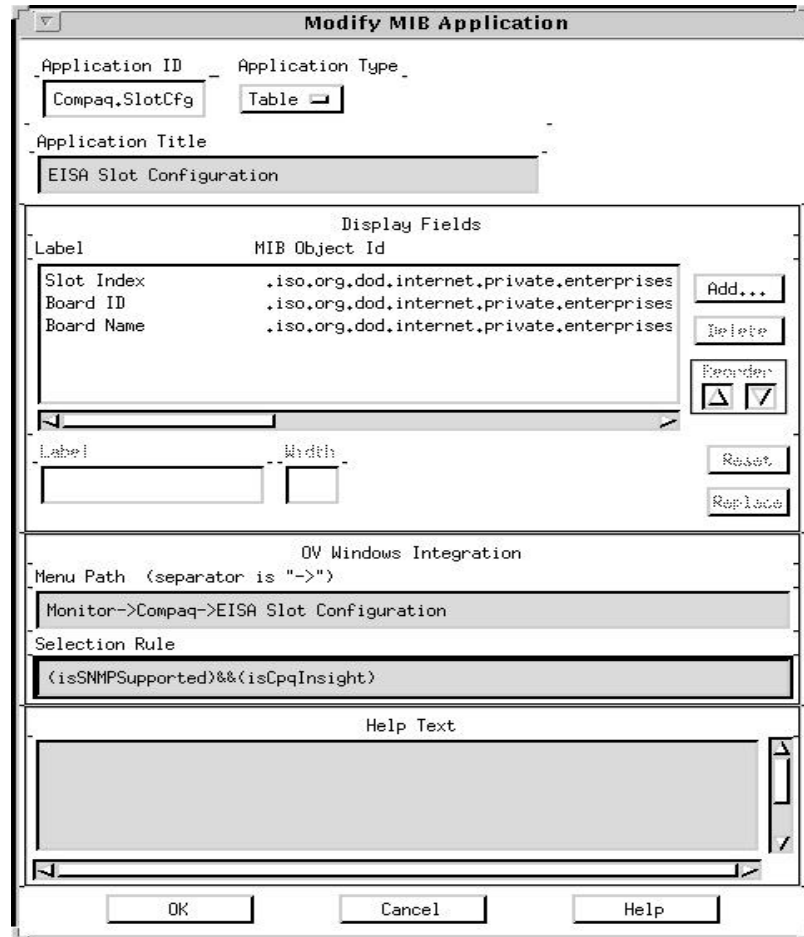

Figure 6-3. Building an application for EISA configuration information
11. You can also add help text to provide assistance for using this application. When completed, you should see a window similar to Figure 6-3.